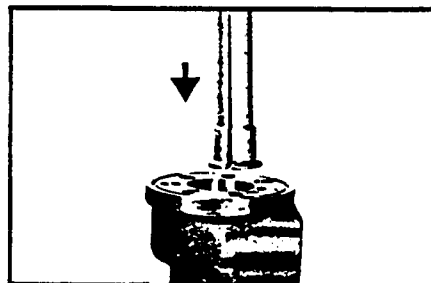
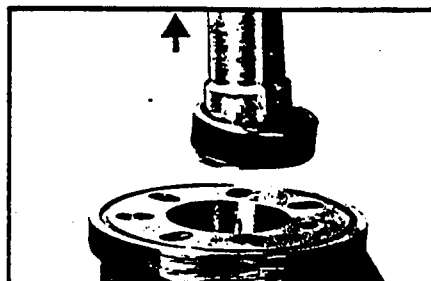

Figure 24
Figure 25
19. If the inner bearing (12), thrust washers (13), thrust bearing (14), or back-up washer (17), need replacement, place housing back into the vise as in disassembly Step 1. Insert a puller for a 1.38 inch (35.1mm) diameter bearing, through the wearplate end of the housing, through bearing (12). SEE FIGURE 24. Expand bearing puller and remove bearing (12) and discard. SEE FIGURE 25.